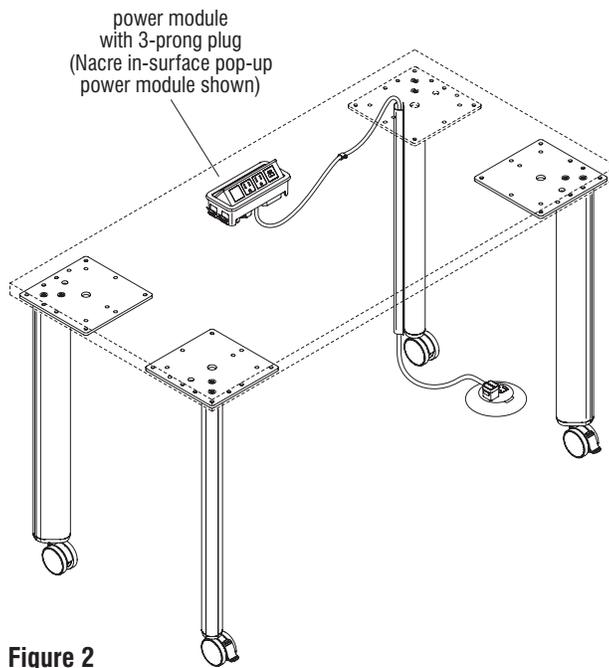

Figure 2
1. Place tables at their final location and lock the two front, user side casters in place on each table (Figure 2).